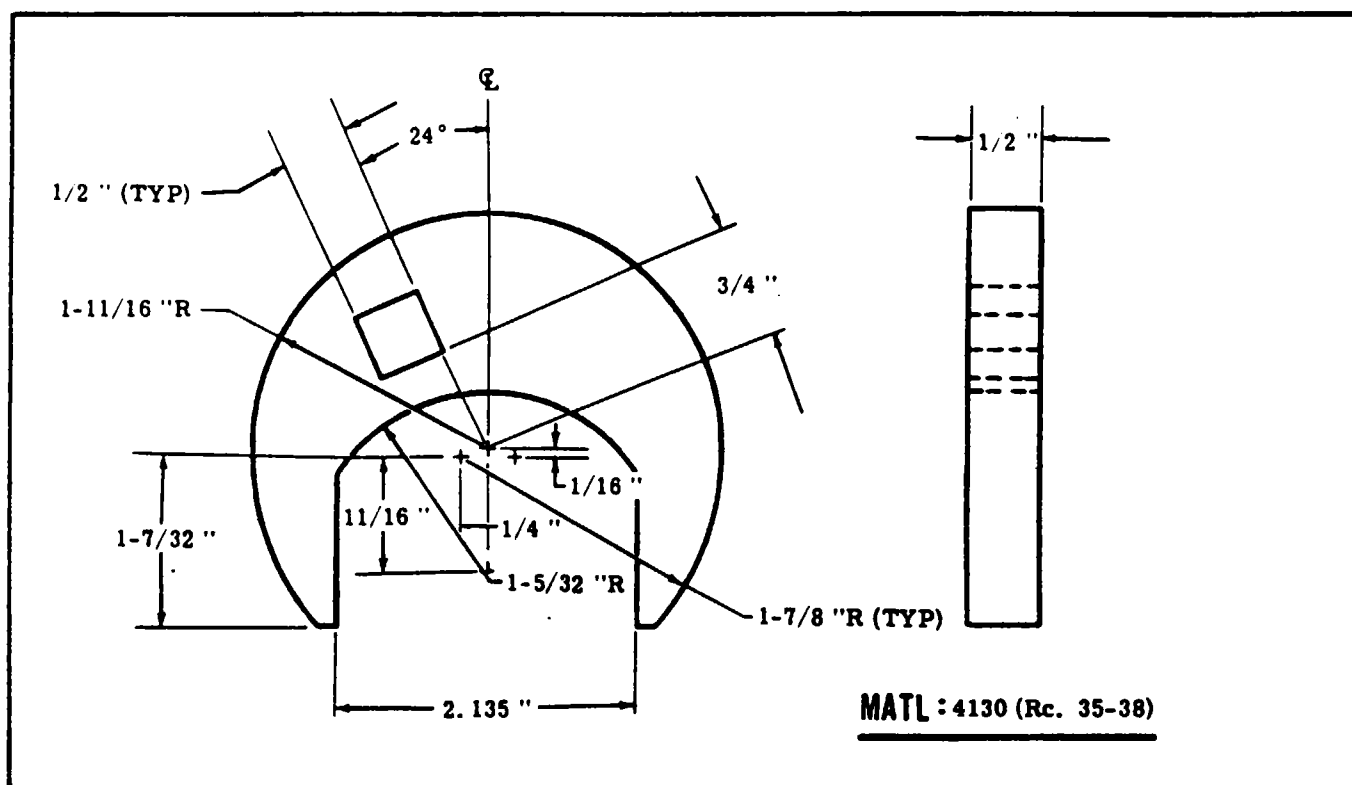

Figure 11-4. Oil Filter Adapter Wrench Fabrication
A special wrench adapter for adapter nut (2) (Part No. SE-709) is available from the Cessna Supply Division. or one may be fabricated as shown in figure 11-4. Remove any engine accessory that interferes with removal of the adapter.